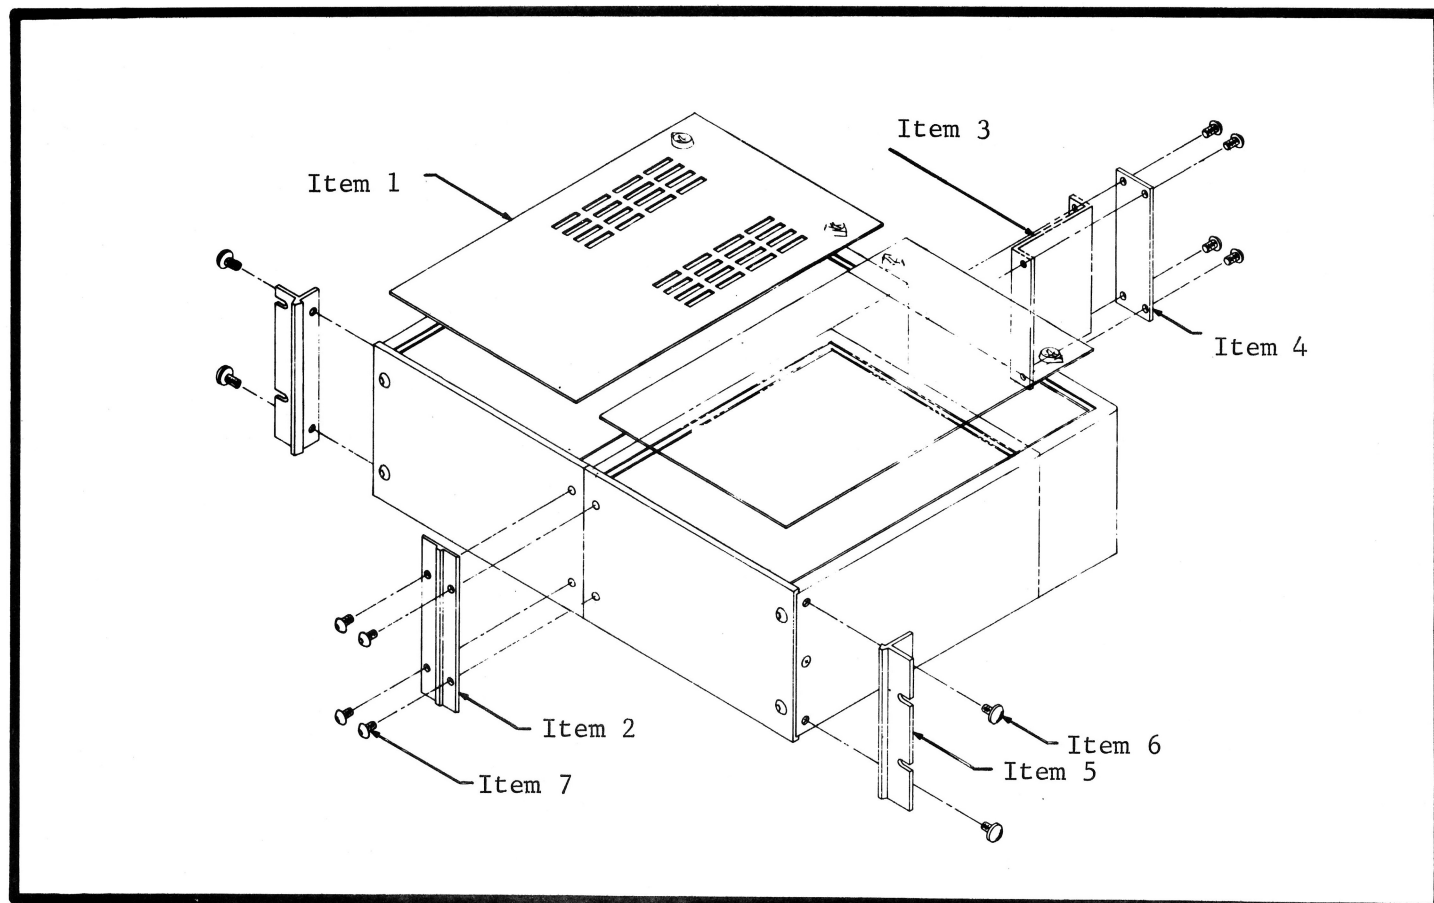

FIGURE 23. Exploded View of Model 4004A Rack Mounting Kit. Refer to Table 8 for parts list.
b. Procedure. Remove the wrap-around cover on each Supply by removing the two corner screws at the bottom of each side. Assemble the rack mounting parts as shown in Figure 23. Attach in this order: covers (1), two rack angles (5), chassis connecting plate (2) or zee bracket (3), and chassis connecting plate (4). If the two instruments are both 10 inches or 13 inches long, use the chassis connecting plate. If one instrument is 10 inches long and the other is 13 inches, use the zee bracket.